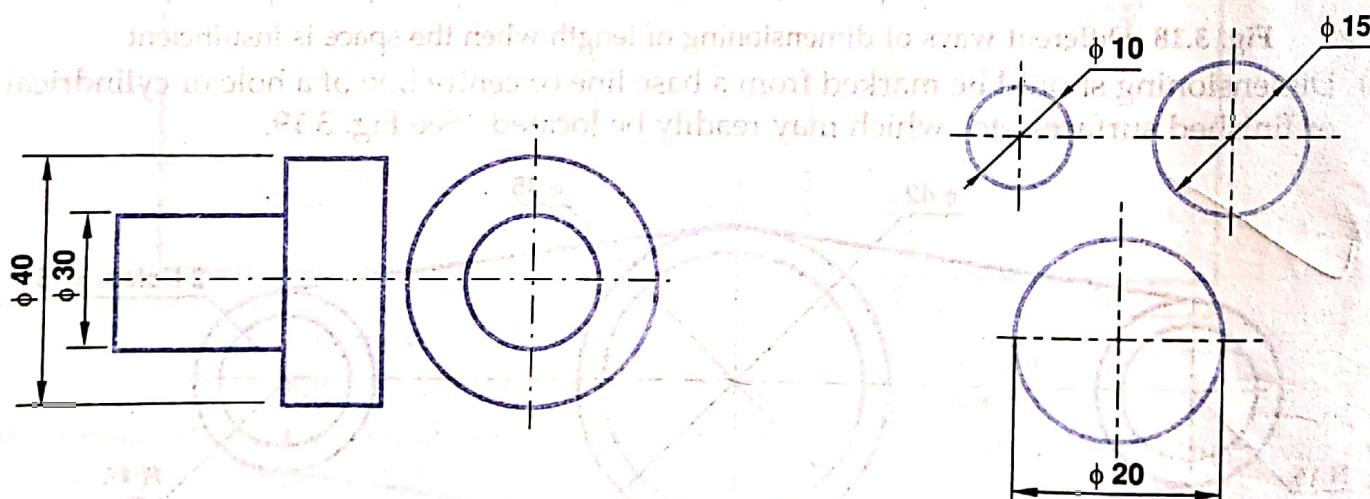

Fig. 3.21 Dimensioning of a cylindrical part
- (x) Dimensioning of a cylindrical parts should as far as possible be placed in the views in which they are seen as rectangles. See Fig. 3.21.